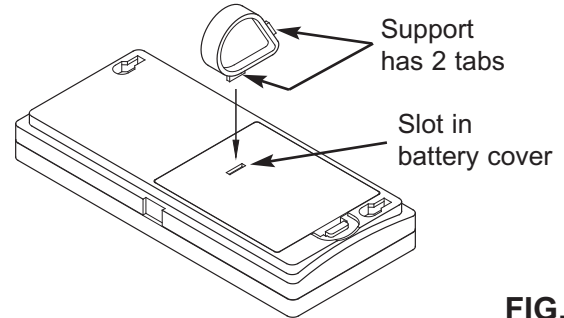

FIG. 35
1. Snap one of the support's two tabs into the rectangular slot on the back of the remote's case (See Figure 35).